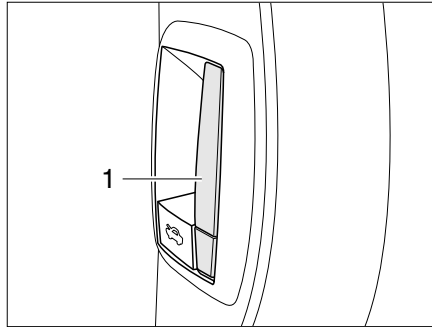

Fig. 33 Release knob on the inside of the bonnet
- Pull the lever (Fig. 33,1) situated on the left-hand side of the vehicle on the dashboard. The bonnet opens as far as the safety hook allows.